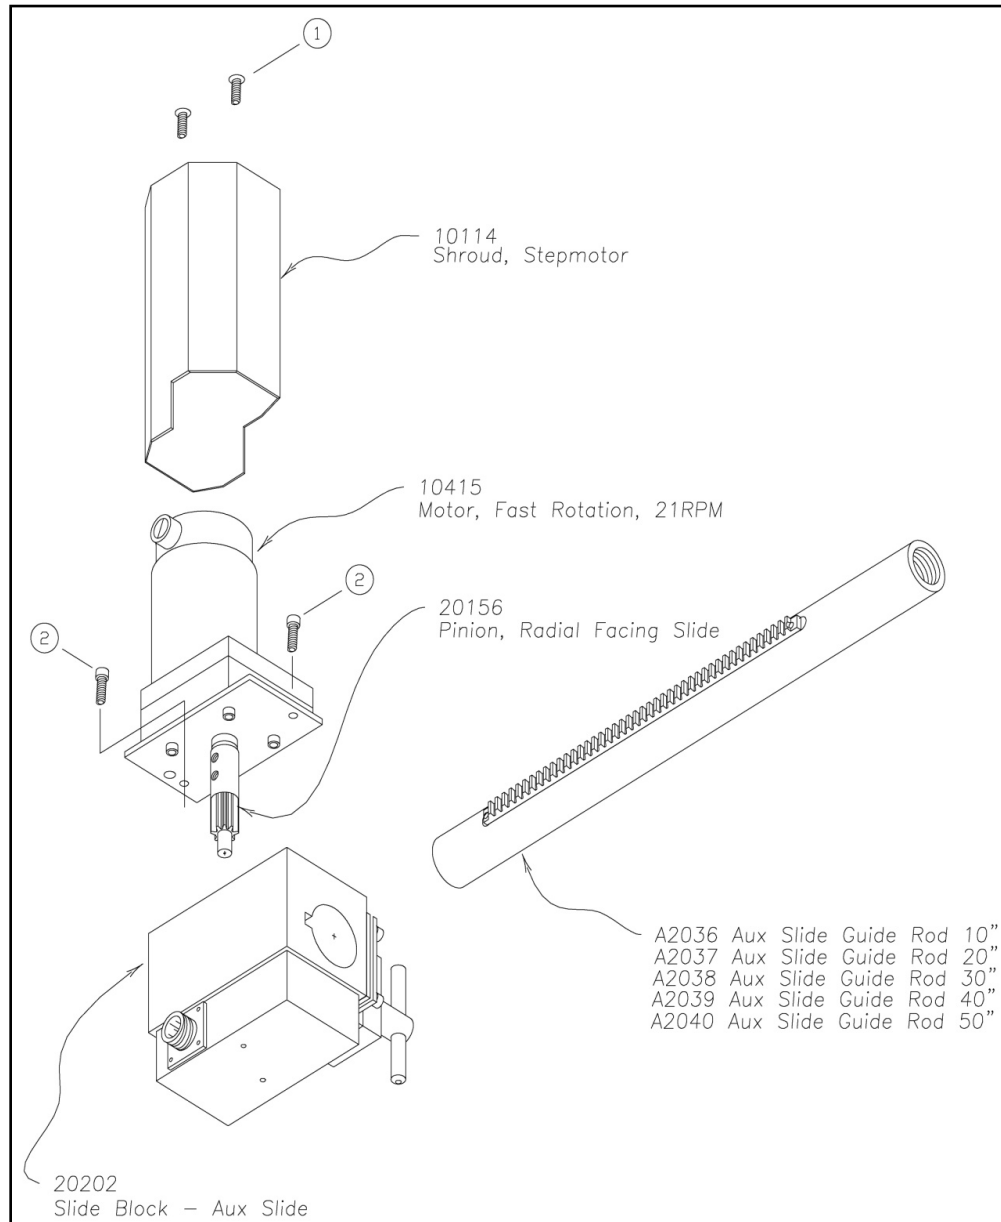

Figure 18 Removal of Step Assembly
The Aux Step mechanism can be removed easily from the Aux Slide guide Rod, if the proper procedure is followed. (See Figure 18)
2. Remove the Shroud from the step drive motor. (Bubble #1 Fig 18)
4. Remove the two Allen Head cap screws which fasten the steel plate the main block. (Bubble #2 Fig 18) Do not remove the steel plate from the step motor.